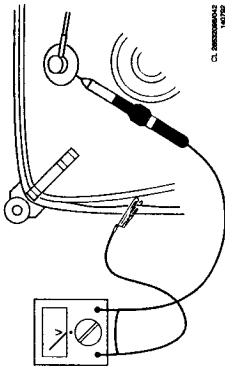

Figure 3.1
1. In order to prevent damage to ICs and transistors, all high-voltage flashovers must be avoided. In order to prevent damage to the picture tube, the method shown in Fig. 3.1 should be used to discharge the picture tube. Use a high-voltage probe and a multimeter (position DC-V). Discharge until the meter reading is 0V (after approx. 30s).